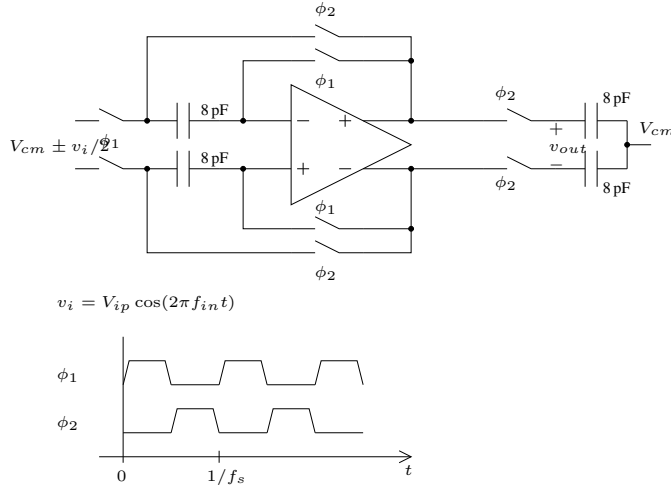

Figure 2: Sample and hold circuit
2. **Sample and hold:** Design the sample and hold circuit in Fig. 2 using the fully differential folded cascode opamp designed above. Use ideal switches with